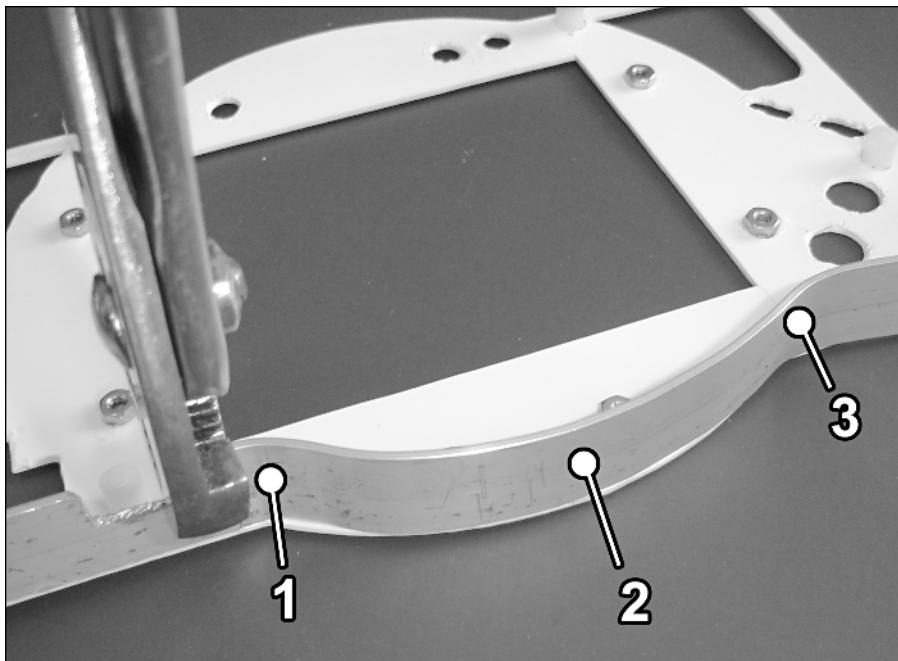
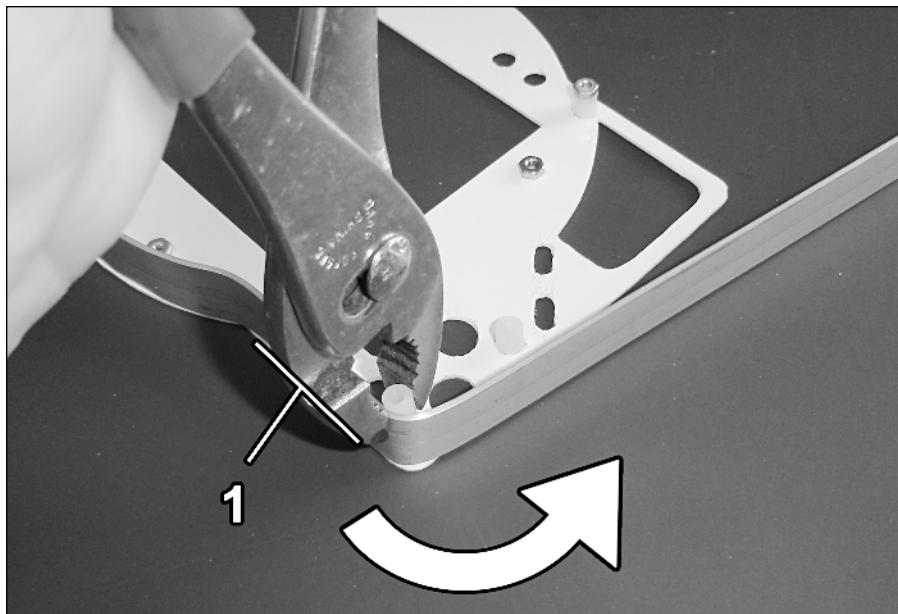

FIGURE 10-7: The second bend in the aluminum.
FIGURE 10-8: How to make bend #3 in the aluminum.
6. You can now make the second bend, which is along the top circular curve. Grasp the last glued portion of the aluminum with your pliers — this creates a *bend point* and keeps the glue from snapping loose. (See Spot 1 in Figure 10-7.)
9. Glue this second bend down as described above. The glue should go from point 1 to 3 (as shown in Figure 10-7) but no farther. After the glue cures, it's time for bend #3! Start by gluing down the straight portion — Spot 1 in Figure 10-8. Put epoxy on the base of the 3/4" screw post to strengthen it, but only on the inside, so that it won't get in the way of the aluminum wall.
10. Let this portion set for about half an hour so that the epoxy can harden further — there's going to be a lot of strain when we make this next bend. Clamp onto the screw post and aluminum with your big pliers, and then bend the aluminum around the case, as seen in Figure 10-8.